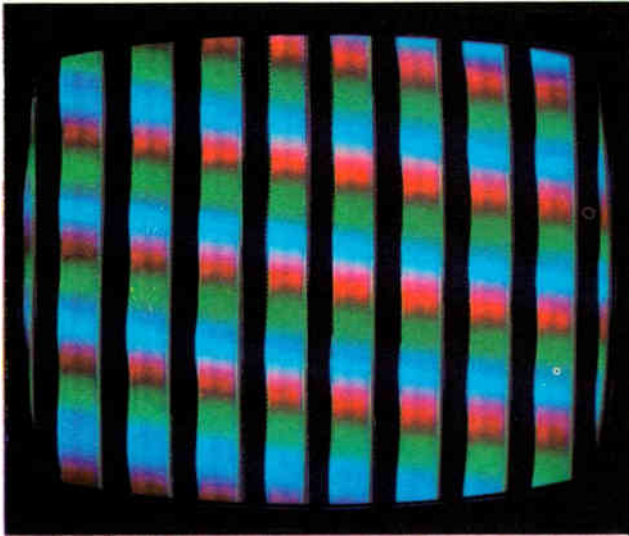

Fig. 4-2. Loss of color sync.
1. Loss of color sync, with black-and-white sync normal. An example is illustrated in Fig. 4-2.